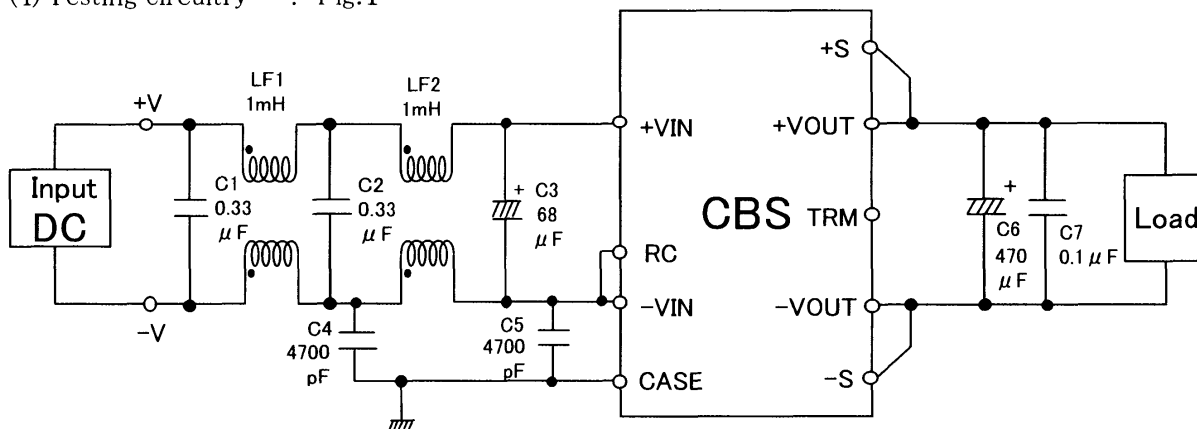

Fig.1 Testing circuitry
- (1) Input : DC24V
- (2) Output : Rated output
- (3) Ambient temp. : 25±10°C
- (4) Testing circuitry : Fig.1